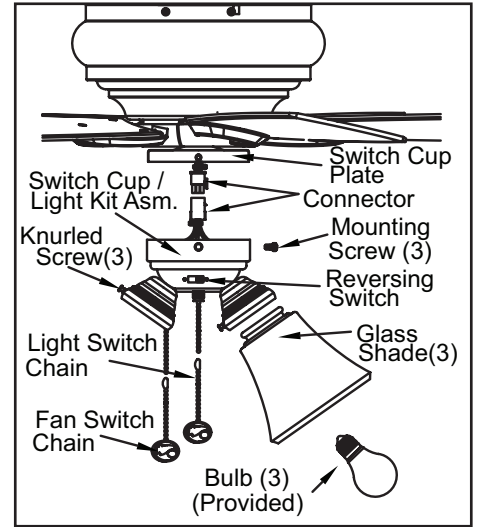

Figure 12
2. Engage the connector of the switch cup/light kit assembly with the motor connector (Figure 12). The two connectors are keyed and must be mated correctly before they can be engaged. Make sure the connector latch closes properly.
4. To install the glass shade, back the three knurled screws out until the glass shade neck slips into the glass holder (Figure 12). Then finger tighten the screws until three screws touch the neck with approximate equal projection on the outside.